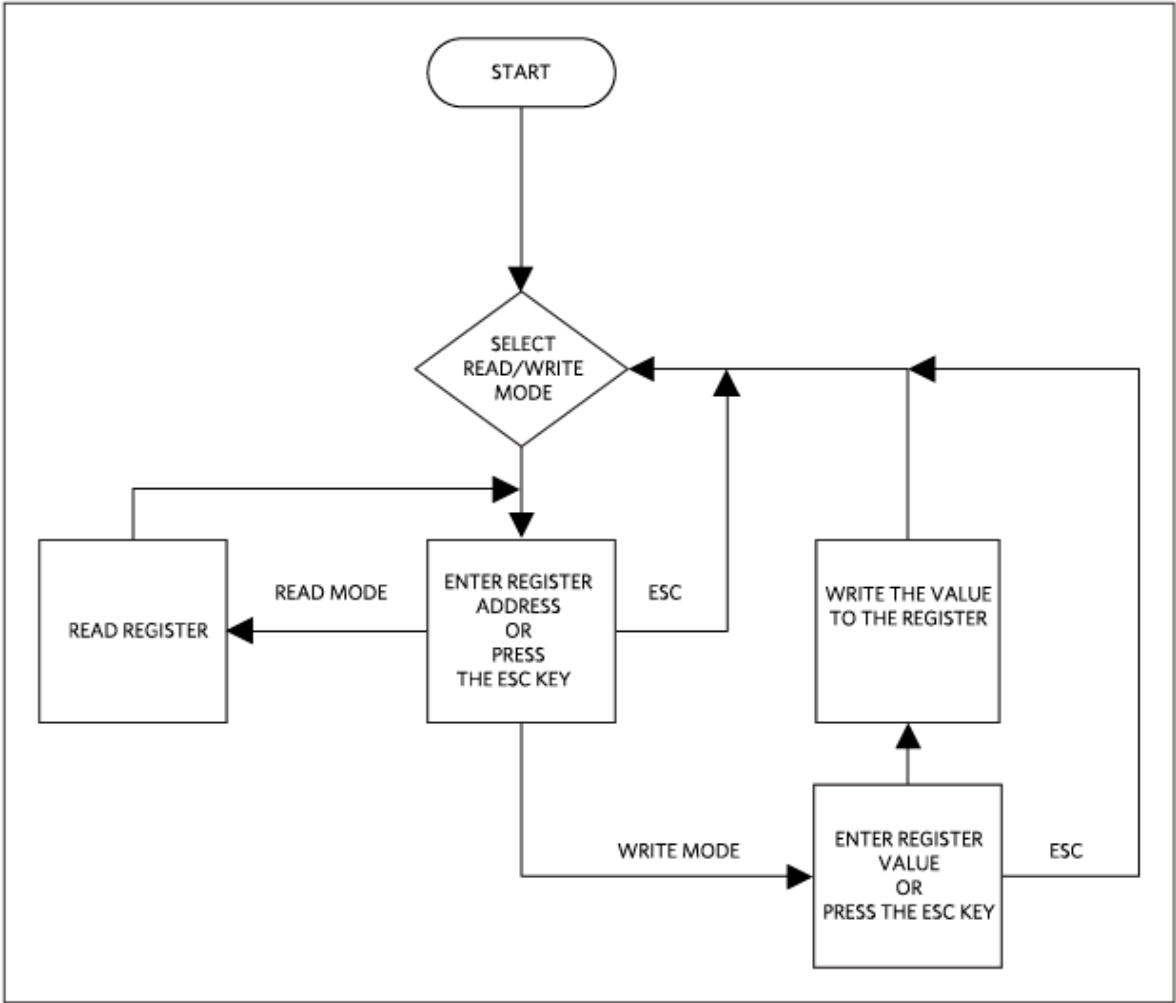

Figure 2. The Sonoma firmware flowchart.
**Figure 2** shows the simple process flow. The firmware is in C, developed using the Xilinx SDK tool, based on the Eclipse™ open-source standard. Custom Sonoma-specific design functions (driver in the maximDeviceSpecificUtilities.c file) were created utilizing the standard Xilinx XSpi core version 3.03a.